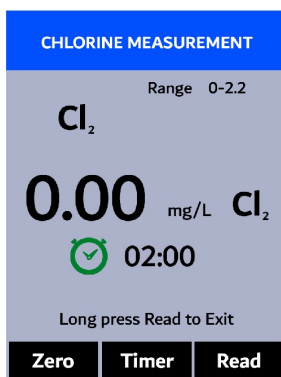

Figure 27.
3. Press **OK** to launch the **CHLORINE MEASUREMENT** screen (Figure 27).
4. Rinse the main module sample cell three times with deionized (DI) water. Fill the sample cell with DI water.